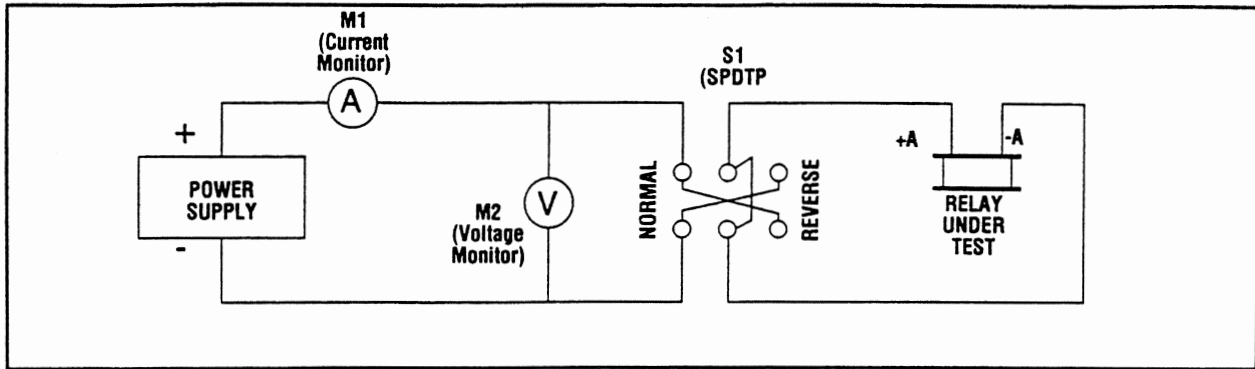

Figure 3-1. Biased Relay Test Setup
Whether or not the test stand is used, the basic test setup is as shown in Figure 3-1.
DC Relay Test Stand or similar test setup per Figure 3-1.
3.6.1.2 Test Setup. When a DC Relay Test Stand is used, the following procedure creates the test setup required. When the test stand is not used, the test setup shown in Figure 3-1 must be created. The non-test-stand setup can use the rack mounted plug coupler/relay but all system wiring connections must first be removed from the plug coupler. All test connections can then be made to the rack mounted plug coupler.
- h. Using the dc power supply controls, reduce the output to zero. Then set the Coil Polarity switch (9) to the OFF position for 1 second, and then move it back to the NORMAL position.
3.6.1.4 Biased Relay Test Without Test Stand. Refer to paragraph 3.5, and create test setup per Figure 3-1. Proceed as follows: